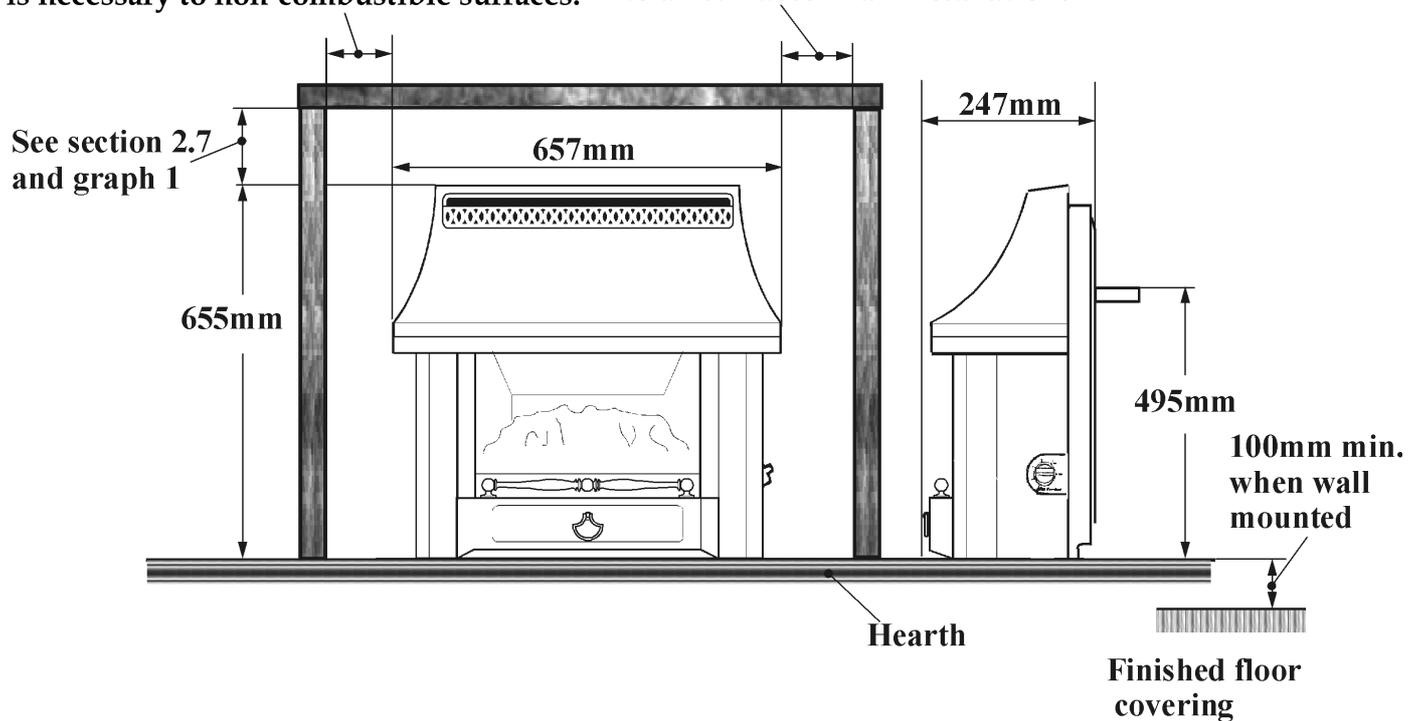

Figure 1 Dimensions
- Provide a minimum side clearance as detailed in figure 1. Please bear this in mind if ever you are considering altering the room.